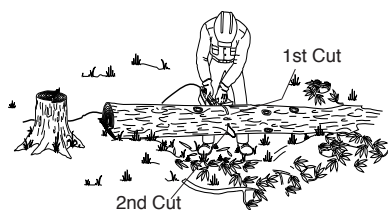

Figure 18 - Bucking Log When Log Is Supported On Both Ends
1. Make first cut from above log (see Figure 18). Cut 1/3 through diameter of log. This cut will keep section from splintering when cut.